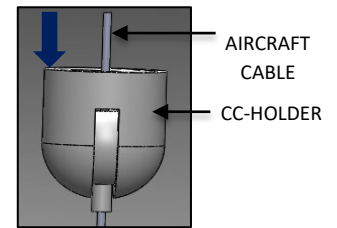

FIG. 19 - SS ROPE CABLE
- Feed the AIRCRAFT CABLE through the CC-HOLDER. Adjust the AIRCRAFT CABLE to the desired length and place it aside as shown in FIG. 19.